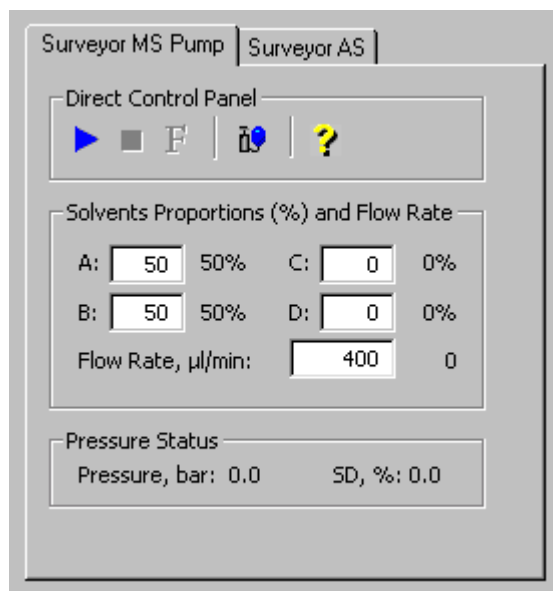

Figure 4-8. Inlet Direct Control view, showing pump Off
- a. On the Control / Scan Mode toolbar, click on the AS/LC Direct Control button to display the Inlet Direct Control view in the top right corner of the workspace. See Figure 4-8.